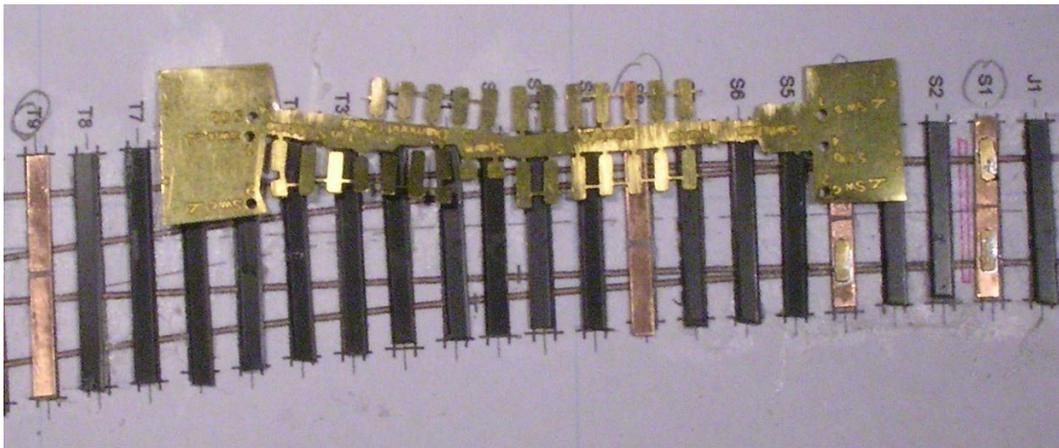

Fig 17 Soldering a Versaline chairplate onto a PCB timber. This example was from a pre-production etch. The production versions are nickel silver.
5. Solder chairplates onto the PCB timbers using the template as a guide. The chairplates come from any Versaline turnout chairplate etch. One of these will provide enough chairplates for several turnouts. Use long ones for the slides and the short ones for the long timber near the crossing. Cut a spine of chairplates from the frame and tin the bottoms of the ones you want while they are on the etch spine. Then use the spine to hold the chairplates as you solder them onto the PCB timbers and only cut them free with a round bladed knife when they are soldered. When they are all fixed run a file over their tops to remove any solder that might have stuck from the iron, fig 17